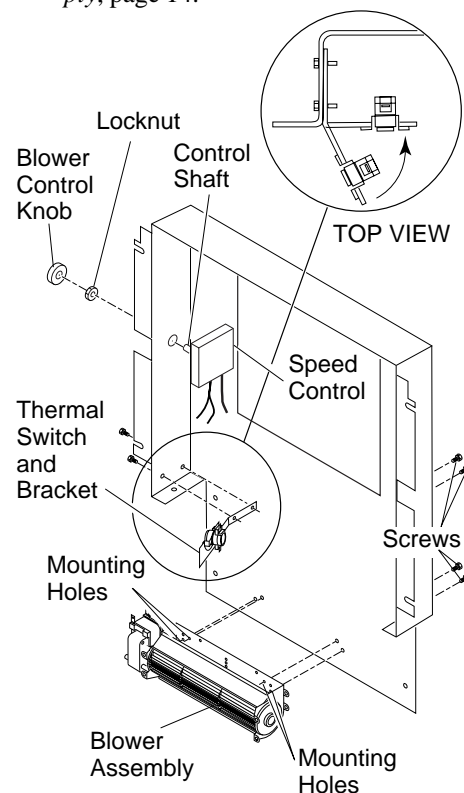

Figure 19 - Blower Assembly, Speed Control, and Thermal Switch Locations
3. Align the holes in the top mounting tabs of blower with the holes in wall of rear cover. Using the 4 screws provided, mount blower and tighten screws securely (see Figure 19).
4. Attach thermal switch and bracket to inside rear cover wall with two hex head screws provided as shown. After securing bracket to rear cover, carefully bend along existing bend line on bracket to almost a 90° angle (see Figure 19). This will allow thermal switch to be positioned against stove rear wall and sense temperature when in operating mode.
5. Place speed control on left inside of rear cover and push the plastic control shaft through opening (see Figure 19).